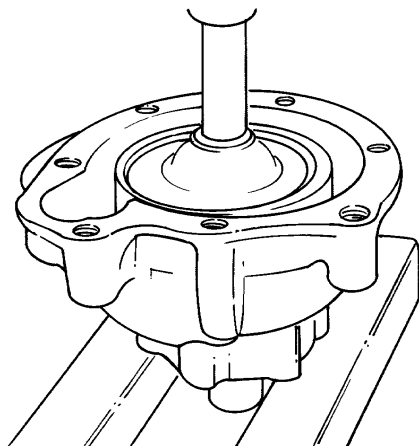

Figure 84 - Coolant Pump Shaft - Removal
- f. Press the coolant pump shaft complete with bearings out of the impeller and the coolant pump housing (Fig 84). Remove the pump impeller from the housing.